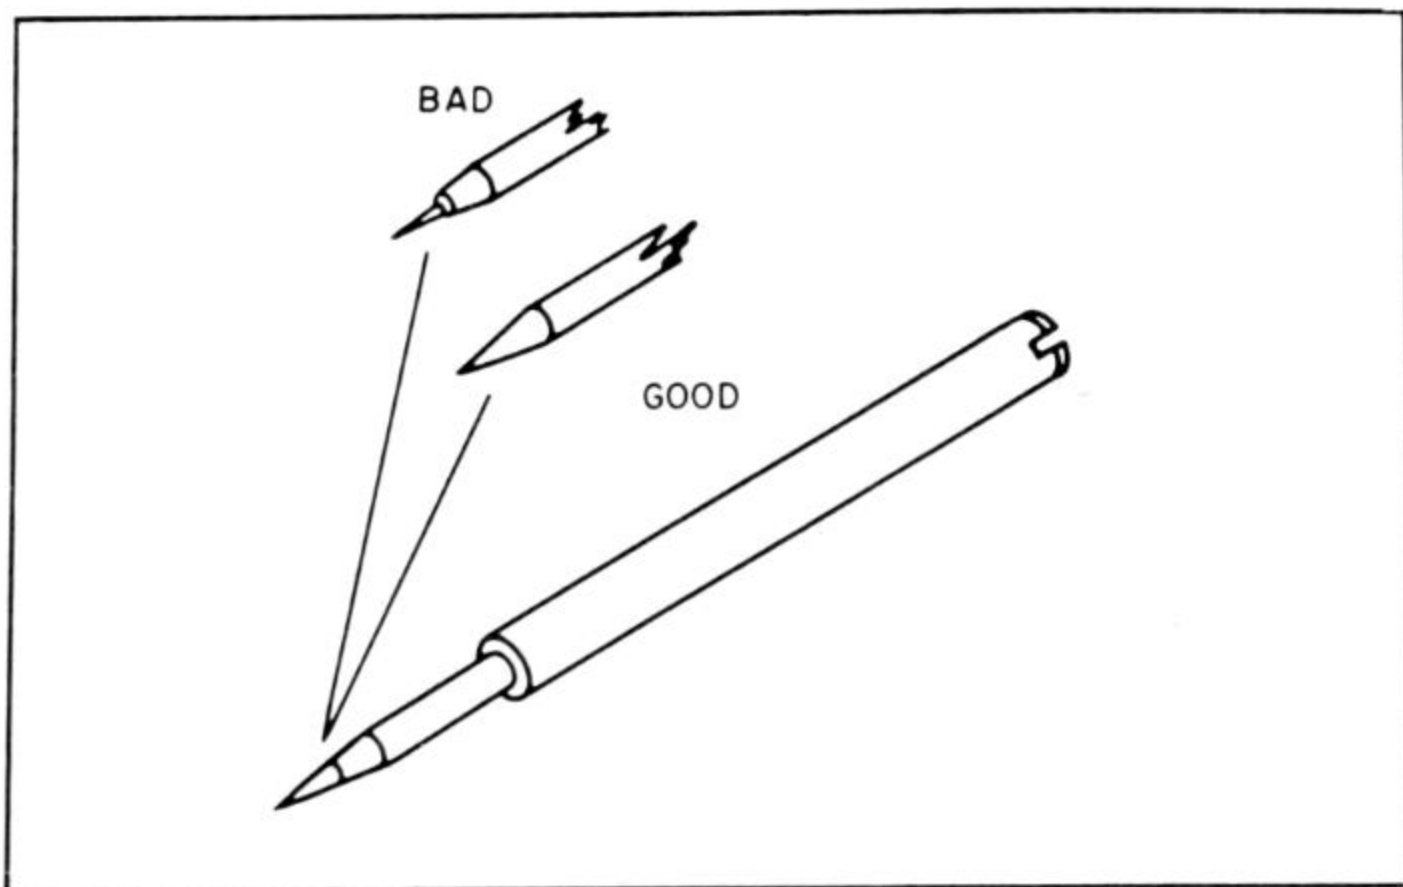

Fig. 3-13. Worn needles make accurate adjustment impossible.
2. Crank the engine. If it does not start after several tries, lightly seat high-speed and low-speed mixture screws. Do not force these needles home: to do so will invite the kind of damage shown in Fig. 3-13 and destroy any hope of fine tuning. Back off both mixture controls about one full turn. The specification varies with carburetor type, but one turn from lightly seated should pass enough fuel for the engine to start.